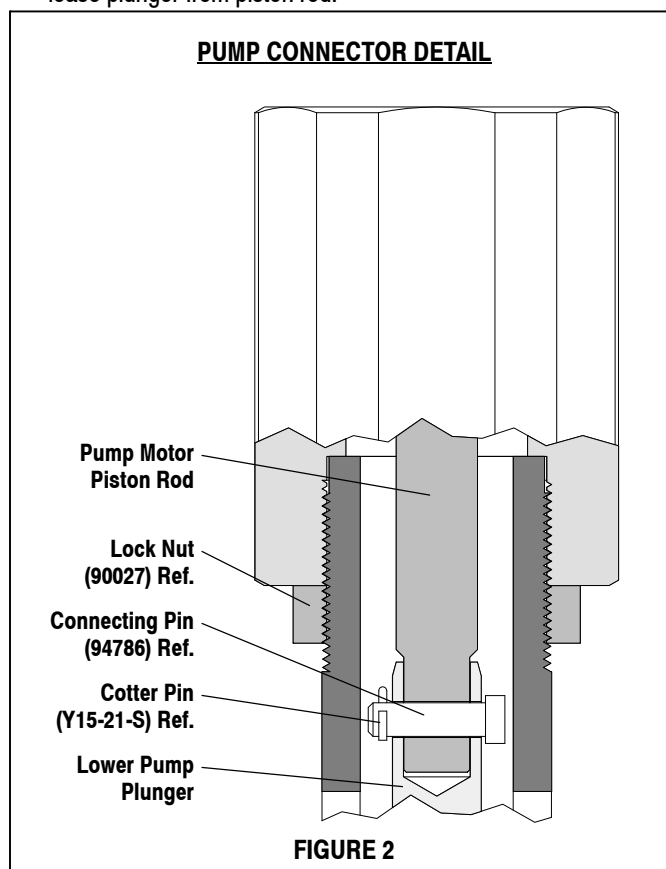

FIGURE 2
- Loosen (90027) lock nut and unscrew entire pump from the air motor. This will expose (94786) connecting pin (see figure 2).